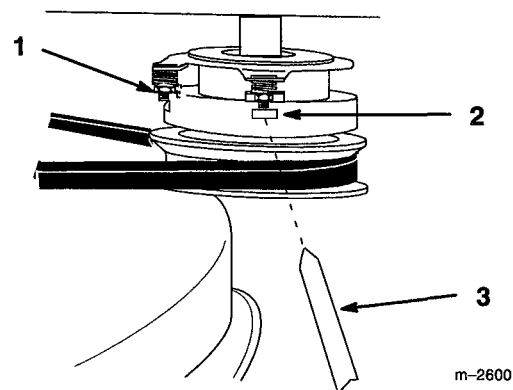

Figure 32
1. To adjust clutch, tighten or loosen lock nuts on flange studs (Fig. 32).
2. Check adjustment by inserting feeler gauge through slots next to studs (Fig. 32).